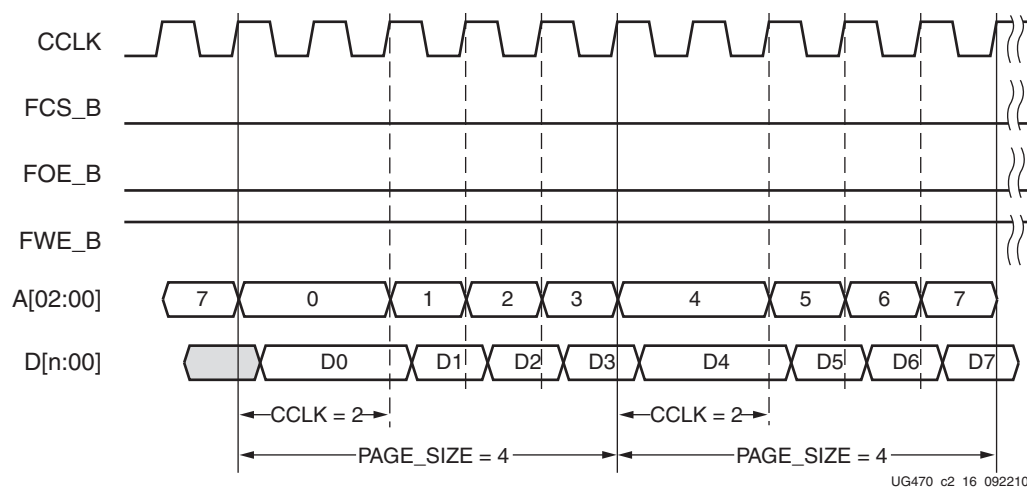

Figure 2-16: BPI Waveforms (Page Size = 4 and First Access CCLK = 2)
is running at slowest default frequency. The COR0 register contains master CCLK frequency control bits (see Configuration Options Register 0 \(01001\), page 96). The COR1 register contains BPI flash page mode control bits (see Configuration Options Register 1 \(01110\), page 99). After the COR1 register is programmed, the BPI address timing switches at the page boundary as shown in Figure 2-16. When the SWITCH command is received, the master CCLK switches to a user-desired frequency, using it to load the rest of the configuration. Refer to the BitGen section of the *Command Line Tools User Guide* for details on BitGen options.
Notes related to Figure 2-16:
1. Figure 2-16 shows BPI mode, a page size of 4, and a first access CCLK of 2.